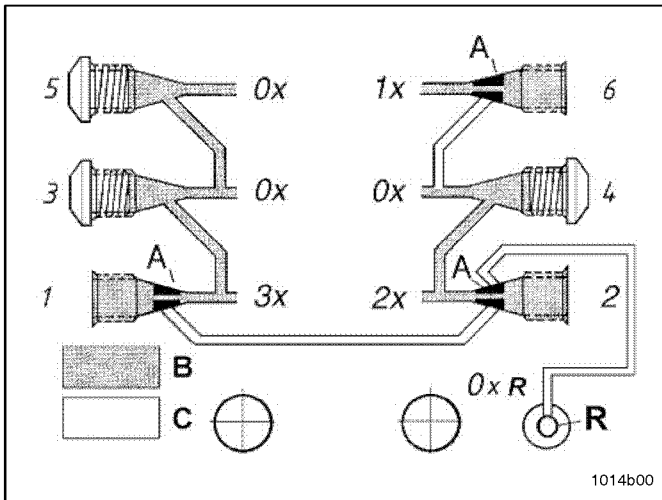

Fig. 1-1 Single double and triple lubricant output (on back side mounted divider block)
- A single output is the lubricant quantity fed to the lube point by a piston per stroke and outlet port. **It amounts to approx. 0.2 cm³**, see outlet 6 (fig. 1-1).
If outlet 2 (fig. 1-1) is connected to a lubrication point, **outlet 1 must not be closed**, see clamping ring (A) in outlet 2.
- The remaining outlets are to be used for the connection to the lube point or for increasing the lubricant quantity (double or triple), comp. fig. 1-1.